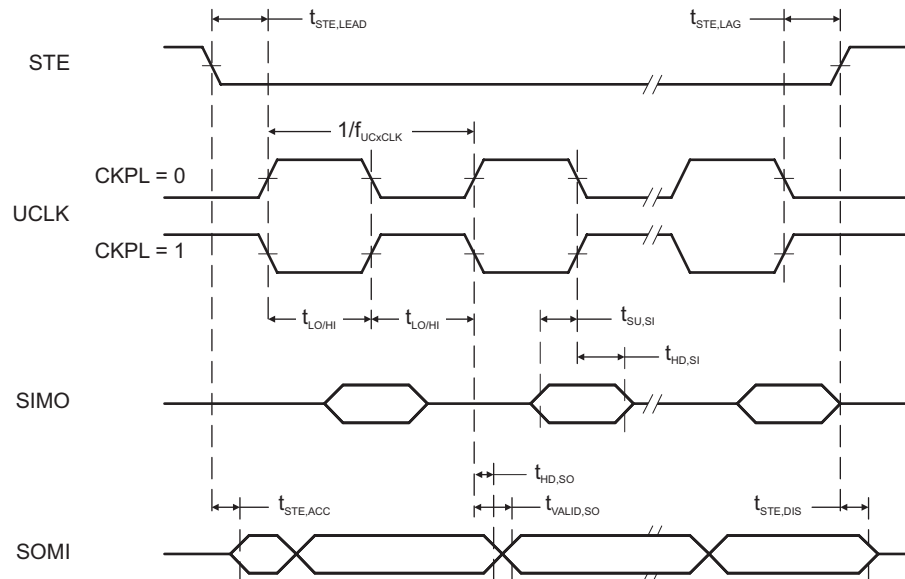
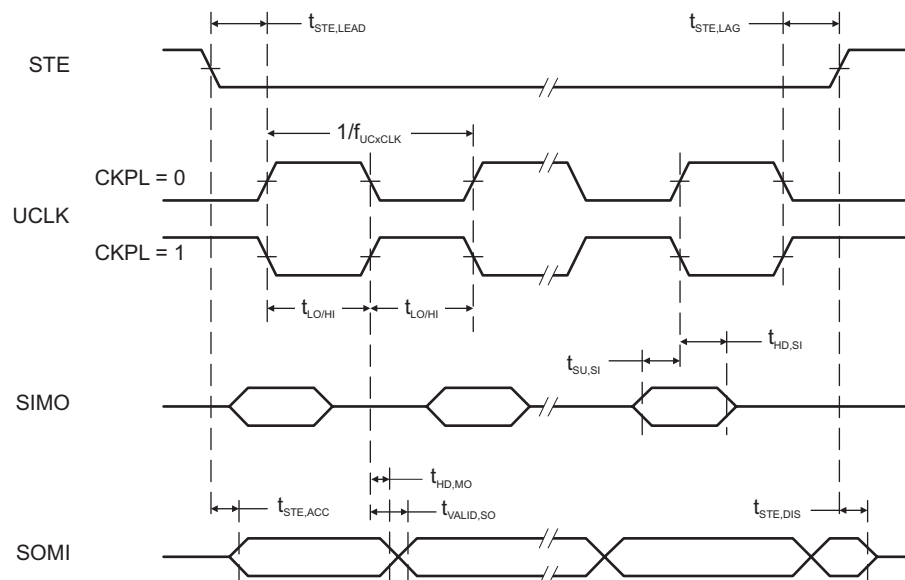

Figure 5-15. SPI Slave Mode, CKPH = 0
Figure 5-16. SPI Slave Mode, CKPH = 1
(see Figure 5-15 and Figure 5-16)
- Specifies the time to drive the next valid data to the SOMI output after the output changing UCLK clock edge. See the timing diagrams in Figure 5-15 and Figure 5-16.
- Specifies how long data on the SOMI output is valid after the output changing UCLK clock edge. See the timing diagrams in Figure 5-15 and Figure 5-16.